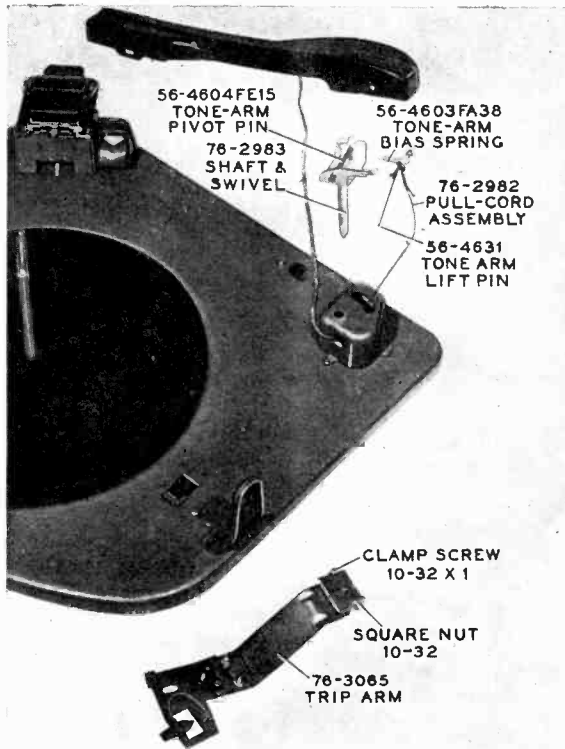

Figure 22—TONE ARM AND TRIP ARM, REMOVED TP-4132
- c. Loosen clamp screw which holds trip arm to tone-arm shaft, 76-2983 (figure 22). Lift out tone arm and shaft.